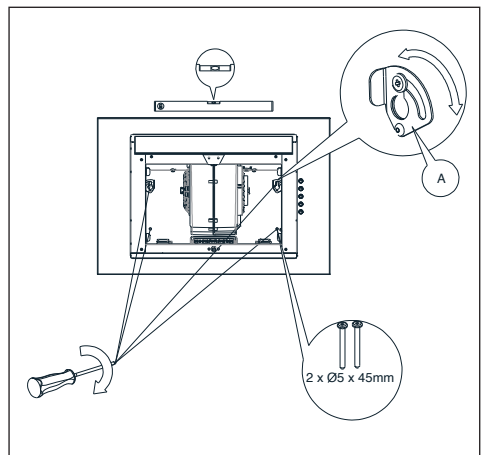

Fig.14 Range hood positioning
5. Place the level on the hood body. Rotating the element marked with A, adjust the hood level according the level's indications, and then tighten two screws previously screwed partially and screw in two remaining screws (Fig. 14).